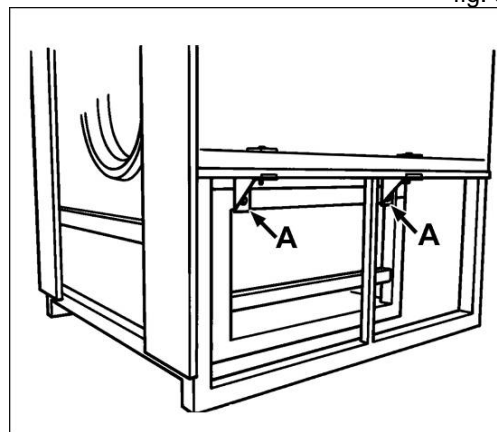

fig. 9
- Locate the four yellow fixing angles (fig. 9/A) and disassemble them.